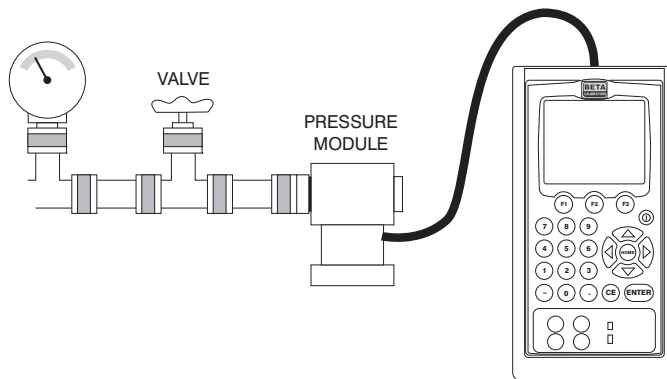

Figure 10. Connections for Measuring Pressure
1. Connect the pressure module to the calibrator as shown in Figure 10.